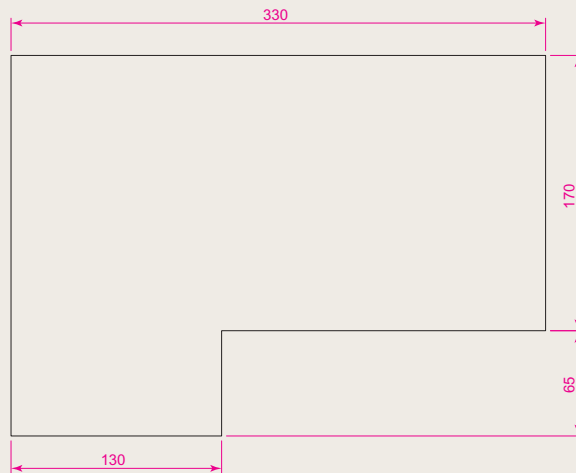
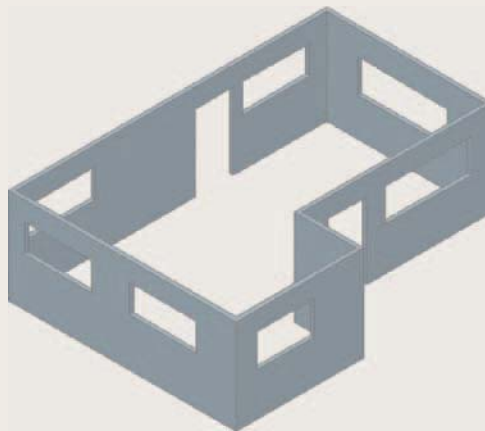

Fig. 12.45 Exercise 1 – outline for polyline
Fig. 12.46 Exercise 1 – polysolid outline
1. Figure 12.45 shows the pline outline from which the polysolid outline Fig. 12.46 has been constructed to a height of **100** and **Width** of **3**. When the polysolid has been constructed, construct extrusions which can then be subtracted from the polysolid. Sizes of the extrusions are left to your judgement.